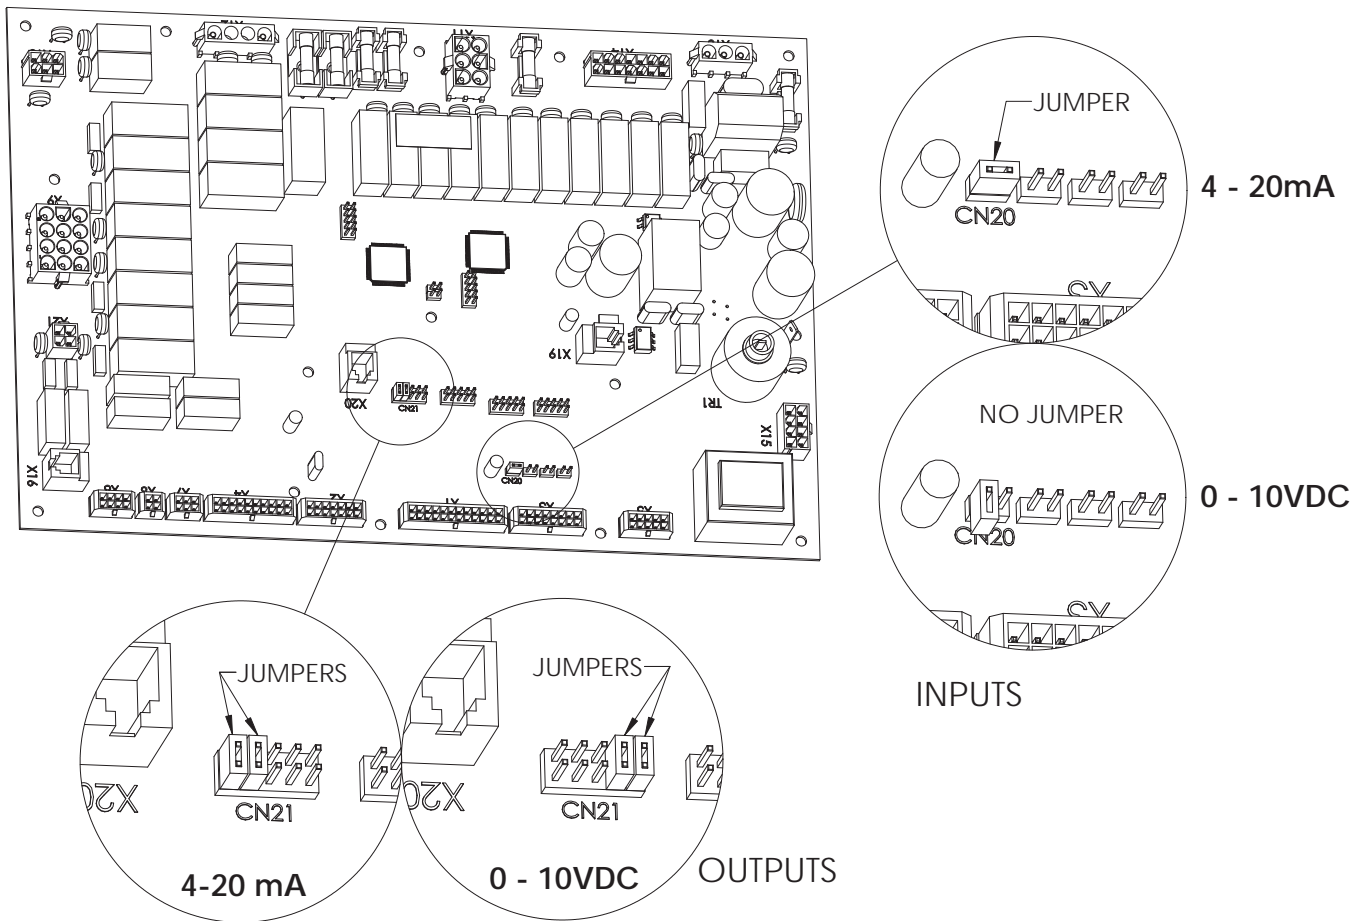

Figure 5. Analog Input and Output Jumper Placement
**Building Automation System (BAS):** The BAS input, if used, is connected to terminals 22 and 23 of the input terminal strip. When making the connection, adhere to the polarity designations shown on the label or wiring diagram. The input signal can be 0 – 10 VDC or 4 – 20 mA, and can be used to control the firing rate or set point.. The factory default setting is for a 0 – 10VDC signal. Configure for 4 – 20 mA by placing a jumper on CN20 on the control board, see Figure 5.